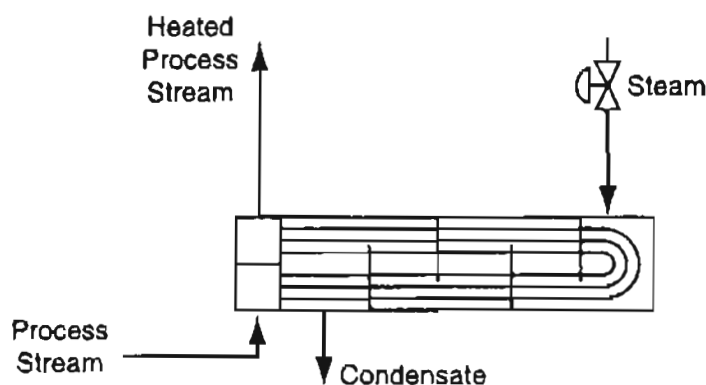

Figure P6.5
- *6.5** Heat exchangers are used to transfer heat from one fluid to another fluid, such as from a hotter fluid to a cooler fluid. Figure P6.5 shows a heat exchanger that transfers heat from condensing steam to a process stream. The steam condenses on the outside of the heat exchanger tubes while the process fluid absorbs heat as it passes through inside of the heat exchanger tubes. The feed rate of the process stream is measured as 45,000 lb/h. The flow rate of steam is measured as 30,800 lb/h, and the exit flow rate of the process stream is measured as 50,000 lb/h. Perform a mass balance for the process stream. If the balance does not close adequately, what might be a reason for this discrepancy?